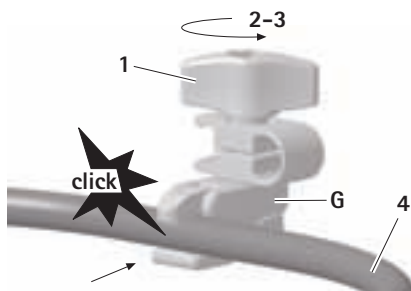

Fig. 6
- Click the fastening clip **G** into the desired position onto the frame **4** (BV814R/BV815R), see Fig. 6. Fastening clamp **G** is fixed on frame **4**.